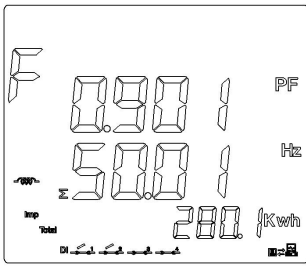

Fig.3.3.4 Display introduction
Segregated active power, segregated reactive power, segregated apparent power, total power(PQS). Short press F3 to check all the pages. \*Pls notice when 3 Phase 3 Wire, it can only display the three phases total phase PQS page. As fig.3.3.4
- As fig.3.3.4